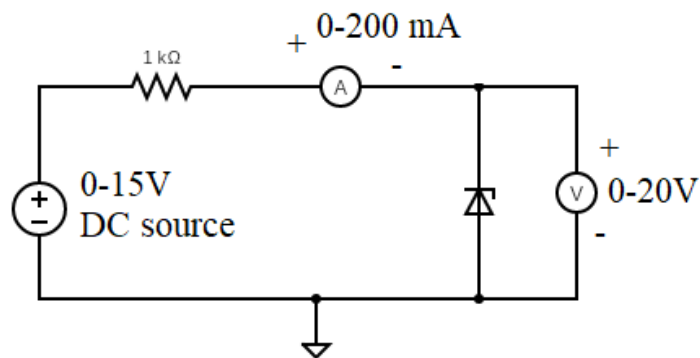

Figure 4.3: Circuit Diagram for Zener diode as reverse bias
1. Connections are made as per Figure 4.3